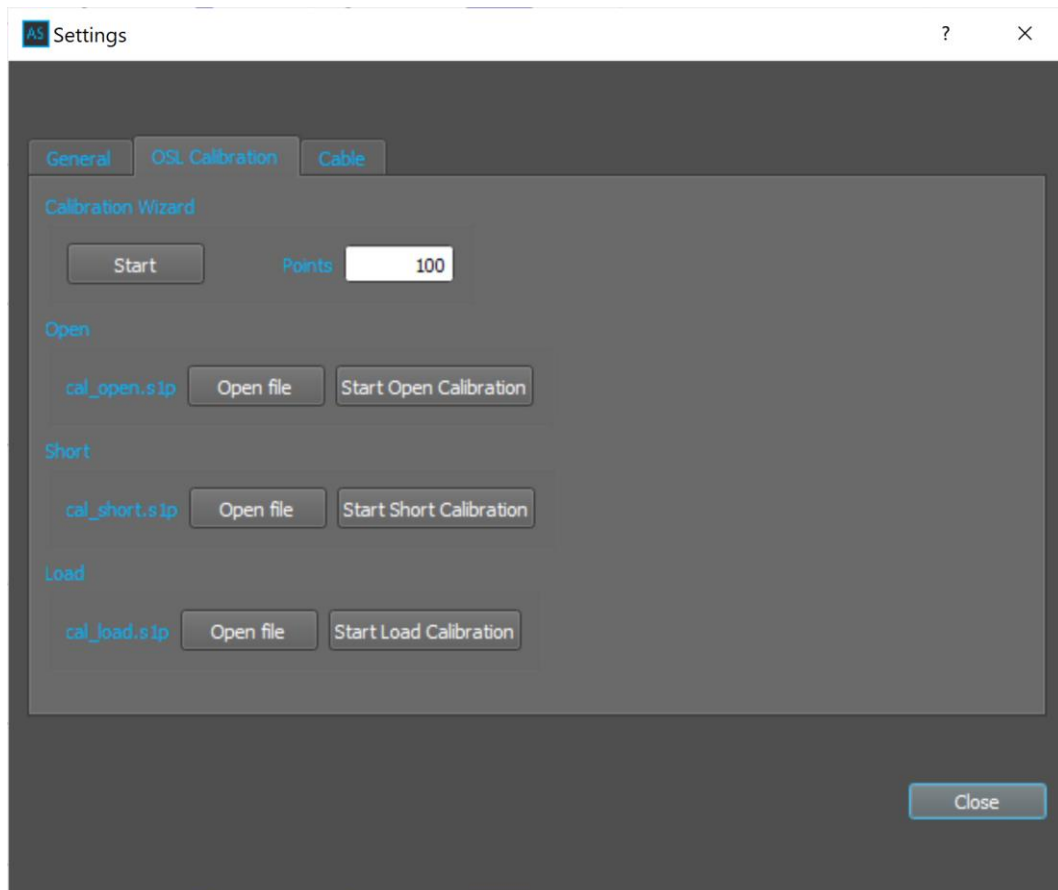

Figure 11-58: Settings > OSL Calibration > Start Open Calibration
7. In the Settings dialog, select OSL Calibration as shown in Figure 11-58.